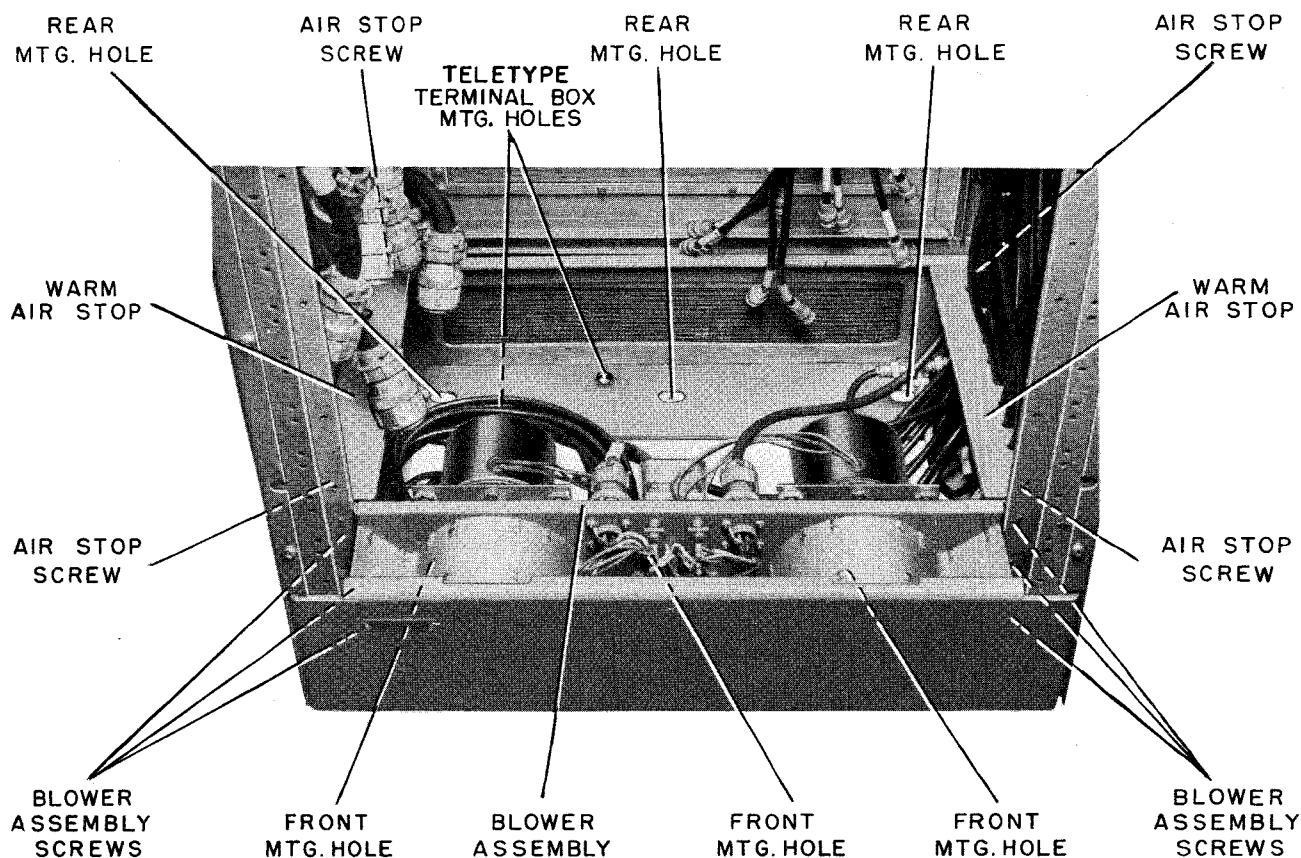

Figure 3-3. Mounting Details, Bottom of Cabinet CY-860/FRR-24
Step 2. Secure the entire assembly to the floor using the floor mounting screws provided. Six holes are provided for this purpose at the bottom of each cabinet. See Figure 3-3.
Step 1. Loosen the nuts on the two shock mounts at the sides of the cabinet and slide the slotted brackets down over the screws. This locates the blower assembly as shown in Figure 3-3. Sufficient clearance is provided between the rack and the warm air stops to allow the blower assembly mounting plate to slide through.
Step 4. Secure the teletype output terminal box to the bottom of bay no. 4 cabinet using 10-32 screws. Refer to Figure 3-3 for location of the mounting holes.
Step 7. The comb-shaped air stop plates contain enough slots to accommodate every cable individually. They vary in size, however, so the cable of largest diameter should be located first. Make certain that each cable passes through a slot in the comb and then secure the comb to the air stop bracket. See Figure 3-3.